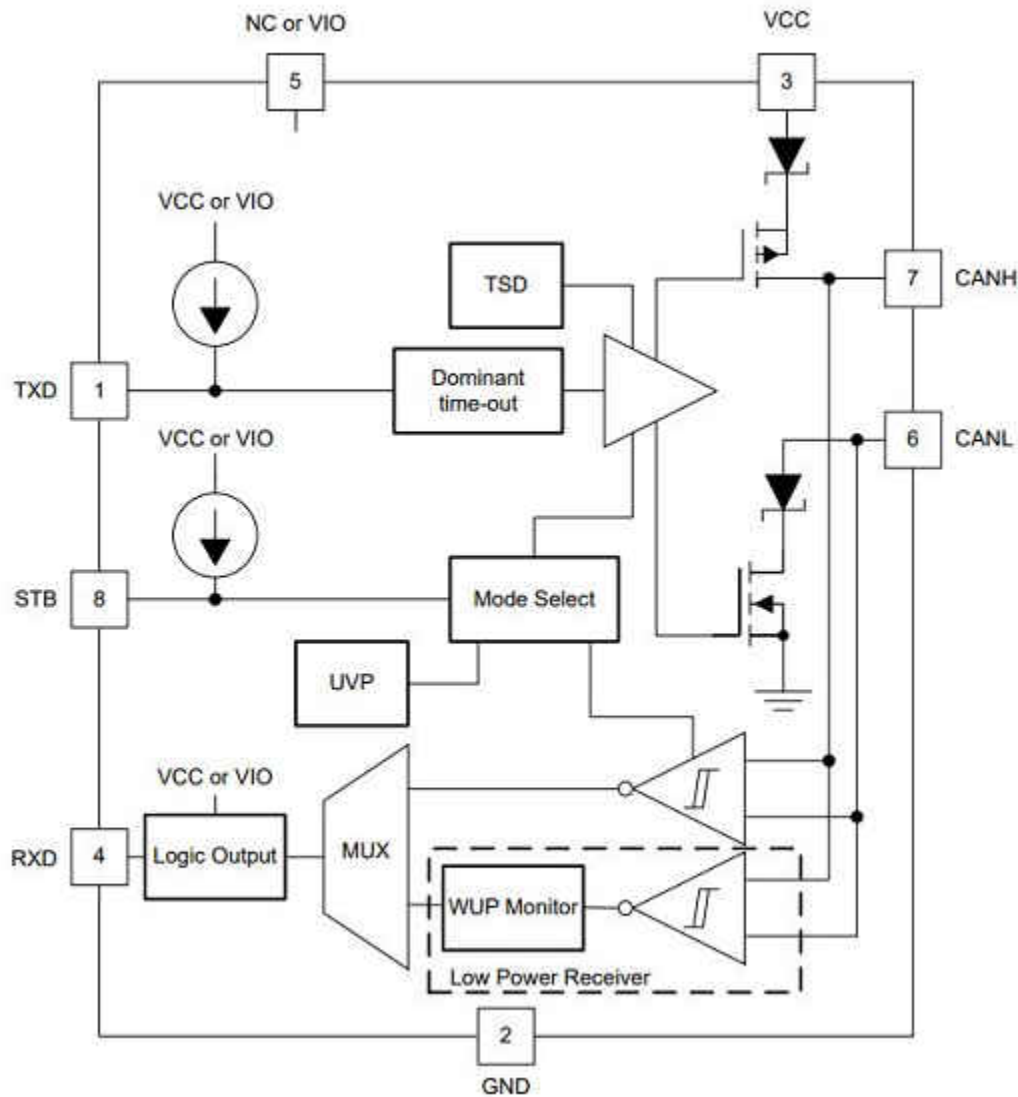

Figure 1-1. TCAN1042-Q1/TCAN1042V-Q1 Functional Block Diagram
Figure 1-1 shows the device functional block diagram for reference. TCAN1042V-Q1 has the VIO input at pin 5, while TCAN1042-Q1 has a no connect (NC) at pin 5.